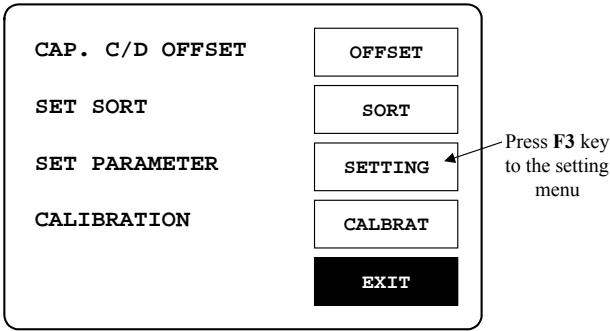

Figure 7-2
- Press **F3** key to select “SET PARAMETER” function. (Figure 7-2)